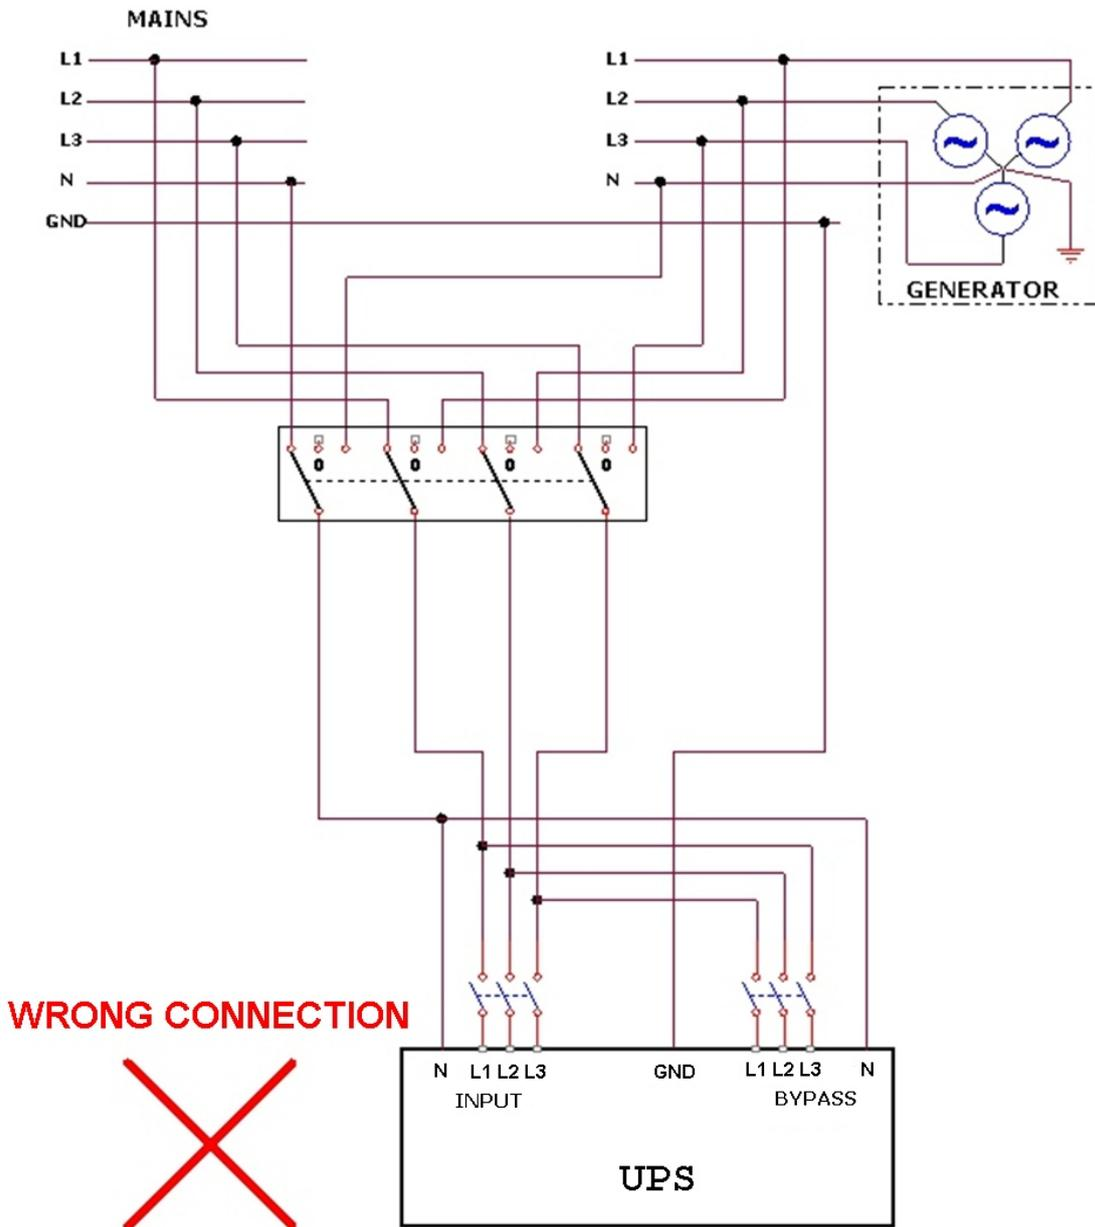

Figure 4-4: Wrong way to connect UPS with four-pole switch
**Figure 4-4** on page 21 illustrates the wrong way to connect the UPS with a grounded-neutral generator.